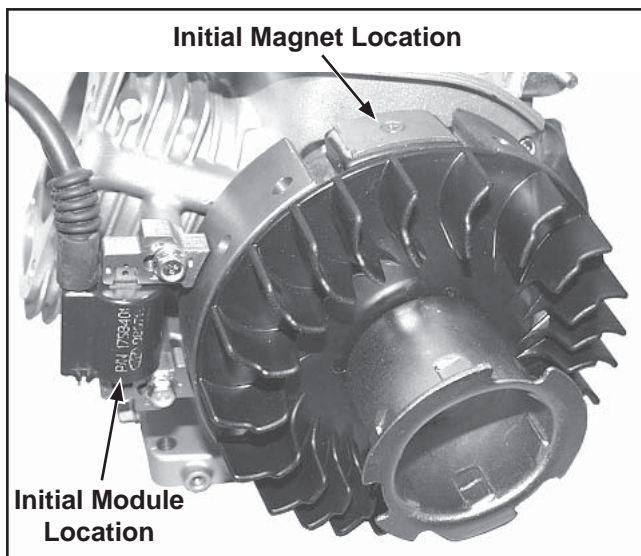

Figure 11-41. Install Ignition Module.
1. Turn the flywheel so the magnet is away from the location where the ignition module will be installed. See Figure 11-41.
2. Install the ignition module loosely to the bosses with the two hex flange screws. Move the module as far away from the flywheel as possible, then tighten the screws just enough to hold it in position. See Figure 11-41.